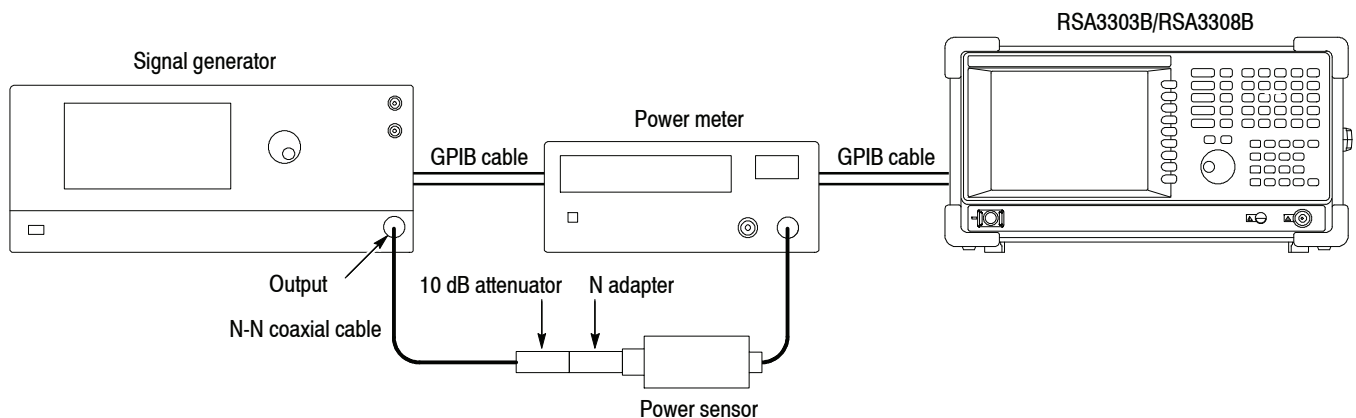

Figure 4-2: Initial test hookup
- b. Connect the power sensor output to the power meter input. See Figure 4-2.